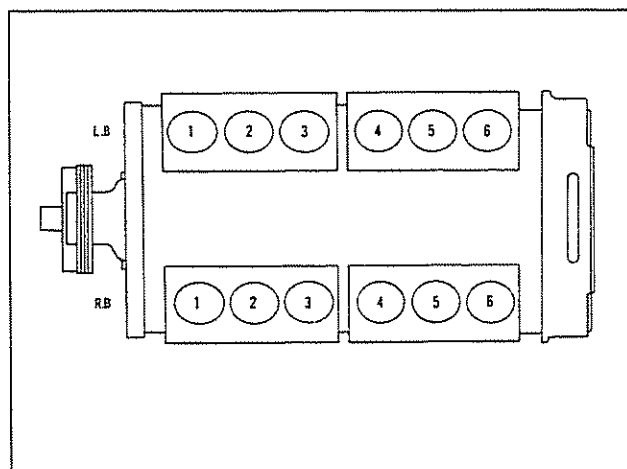

Fig. 2-47, (V414231). V-1710 piston position
6. For the firing order see Table 2-14 for Inline Engines and Table 2-15 and Fig. 2-47 for V-1710 Engines.